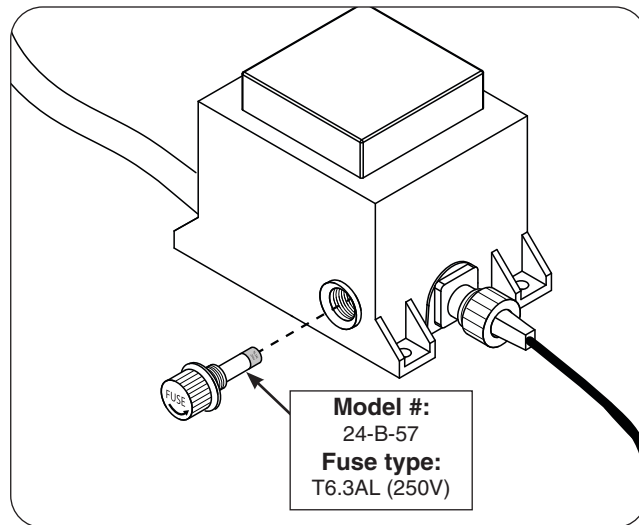

Fig. 33-1 Fuse replacement
3. Locate the fuse holder on the power supply (see Fig. 33-1).